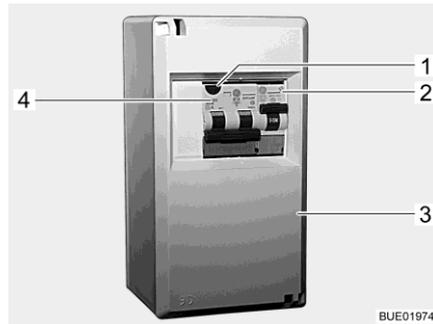
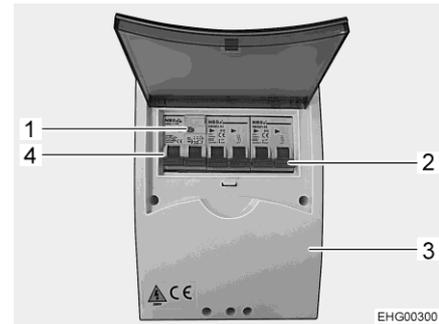

Fig. 131 230 V fuse box
Fig. 132 230 V fuse box (variant)
A combined fault current protection switch / safety cut-out (Fig. 131,4 or Fig. 132,4) in the fuse box (Fig. 131,3 or Fig. 132,3) protects the complete vehicle from fault current (0.03 A).
For vehicles with special equipment (e.g. air conditioning unit) an additional safety cut-out (10 A) (Fig. 131,2 or Fig. 132,2) secures the device.
- When the vehicle is connected to the 230 V power supply, press the test button (Fig. 131,1 or Fig. 132,1). The fault current protection switch must trip.